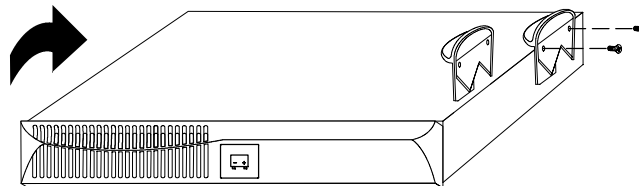

Figure 3. Installing EBM Pedestals
3. Place the EBM cabinet upside down so that the right end of the unit is accessible (see Figure 3).